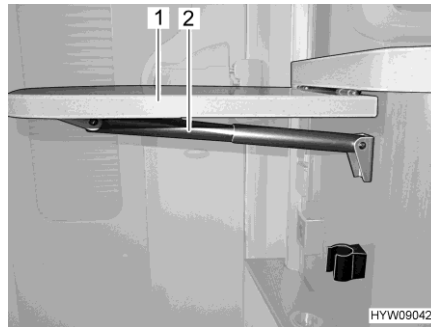

Fig. 93 Folding worktop
- Hold the folding worktop (Fig. 93,1) from below and pull gently to release it from the lock position.
- Swing up the table top until the fixture of the telescopic holder (Fig. 93,2) engages. Let go of the worktop.